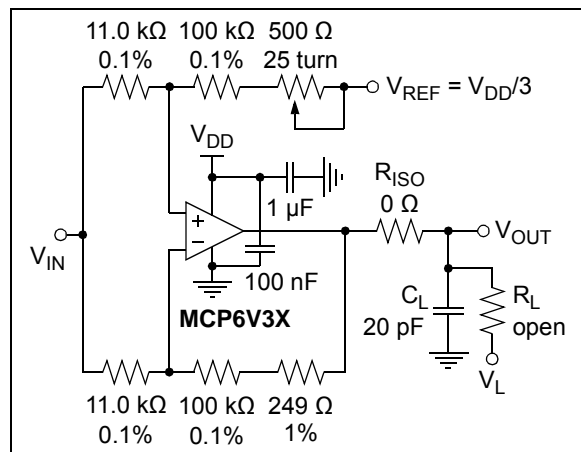

FIGURE 1-6: Test Circuit for Dynamic Input Behavior.
- Note 1:** These parameters were characterized using the circuit in Figure 1-6. In Figure 2-36 and Figure 2-37, there is an IMD tone at DC, a residual tone at 100 Hz and other IMD tones and clock tones.
The circuit in Figure 1-6 tests the input's dynamic behavior (i.e., IMD, t_{STR} , t_{STL} and t_{ODR}). The potentiometer balances the resistor network (V_{OUT} should equal V_{REF} at DC). The op amp's common mode input voltage is $V_{CM} = V_{IN}/2$. The error at the input (V_{ERR}) appears at V_{OUT} with a noise gain of 10 V/V.